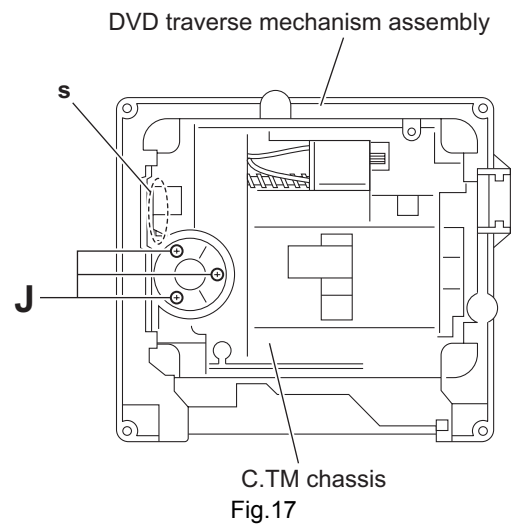

Fig.17
- From the bottom side of the DVD traverse mechanism assembly, remove the three screws **J** attaching the spindle motor board. (See Fig.17.)
When attaching the spindle motor board, let the card wire through the hole **s** on the C.TM chassis. (See Fig.17.)